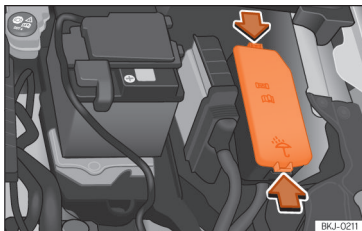

Fig. 51 In the engine compartment: fuse box cover.
- Press the locking tabs to release the fuse box cover »» **Fig. 51**.